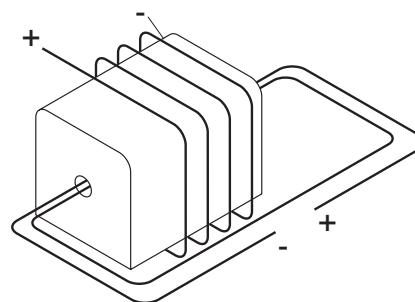

Figure 3: Wire Arrangement With the 3-D Magnetic Field Demonstrator
3. The 3-D Magnetic Field Demonstrator can also be used to observe the magnetic field lines around a current carrying wire. The wire can be wrapped around the vessel in either of the two ways illustrated in Figure 3. Use insulated copper wire. A direct current supply capable of delivering 40-50 amps is required.